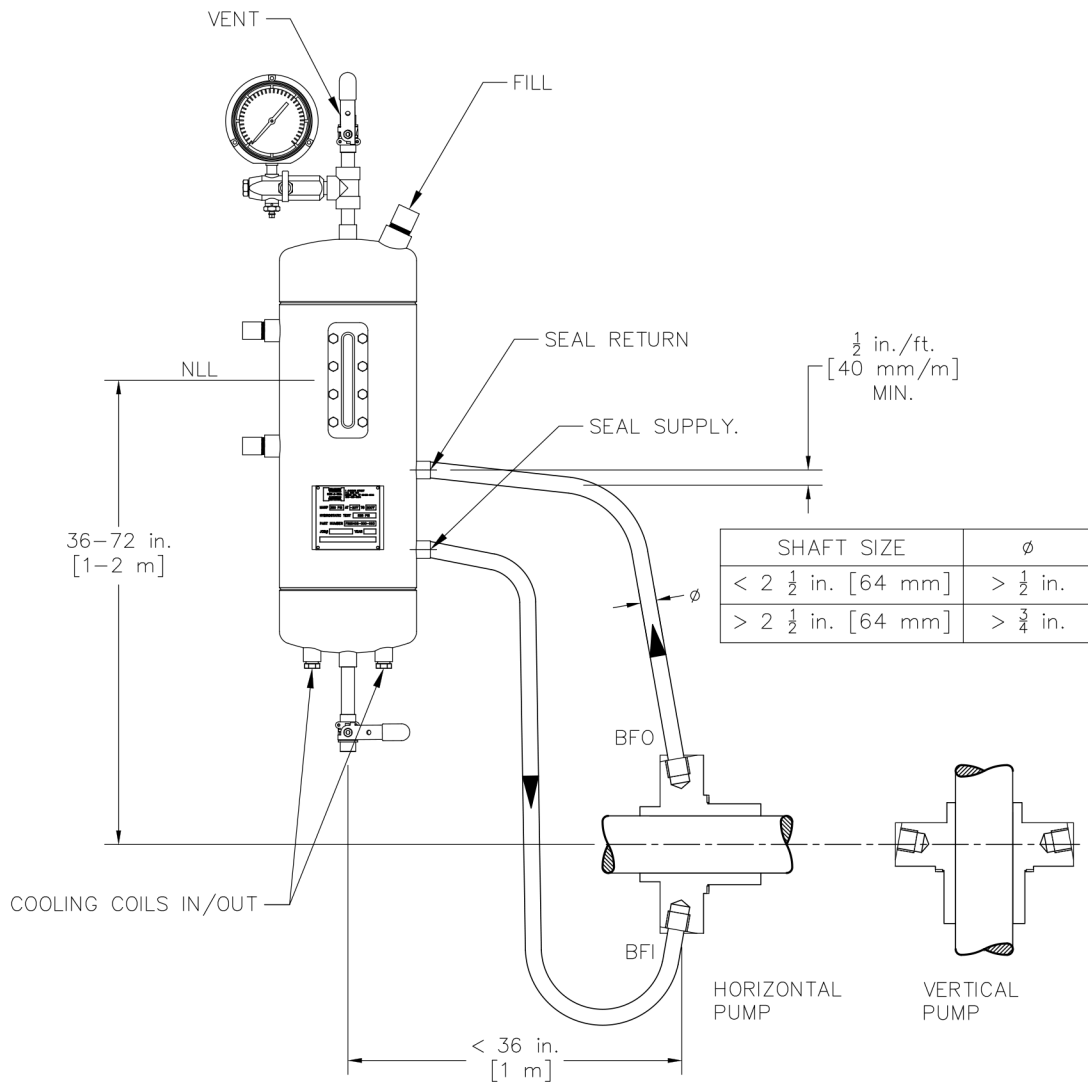

Figure 3: Typical installation of a buffer/barrier fluid reservoir.
2. Mount buffer/barrier fluid reservoir within a 36 in. [1 m] radius of the seal location and such that the normal liquid level (NLL, midpoint of the sight glass) is 36–72 in. [1–2 m] above the centerline of the seal gland (Figure 3). The reservoir should be as close as possible to the mechanical seal while allowing enough room for operation and maintenance.
5. Correctly make connections between the barrier fluid reservoir and the mechanical seal according to the connection labels on the prints. The SEAL SUPPLY connection (lower port) on the reservoir must lead to the buffer/barrier fluid in (BFI) connection on the seal gland; the SEAL RETURN connection (upper port) on the reservoir must lead to the buffer/barrier fluid out (BFO) connection on the seal gland (Figure 3).